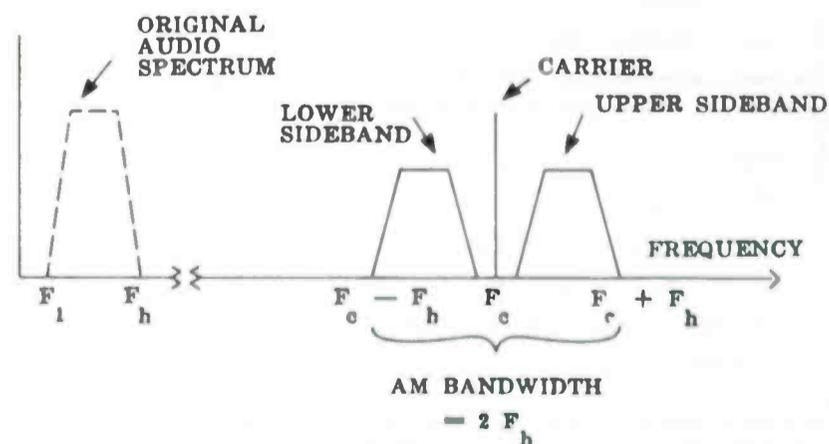

Figure 4
**3** Your answer is incorrect. The r-f carrier does not need to be known in order to determine the AM bandwidth. The highest modulating frequency will determine the bandwidth, since its resulting upper and lower sideband components will be located furthest from the carrier. In general, the AM spectrum can be visualized as shown in figure 4. Note from this figure that the bandwidth equals twice the highest modulating frequency, independent of the r-f carrier. Return to frame 10 and choose another answer.